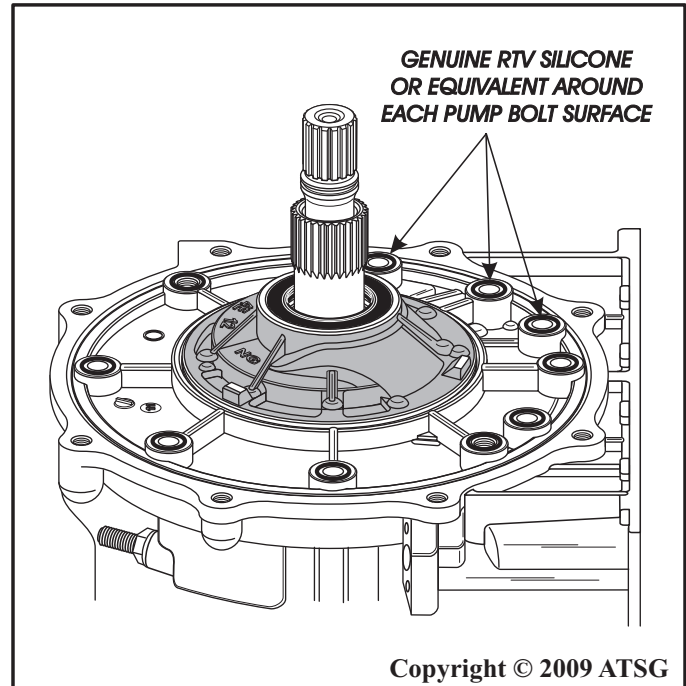

Figure 229
81. Apply genuine RTV silicone, or the equivalent, around each oil pump retaining bolt surface, as shown in Figure 229.